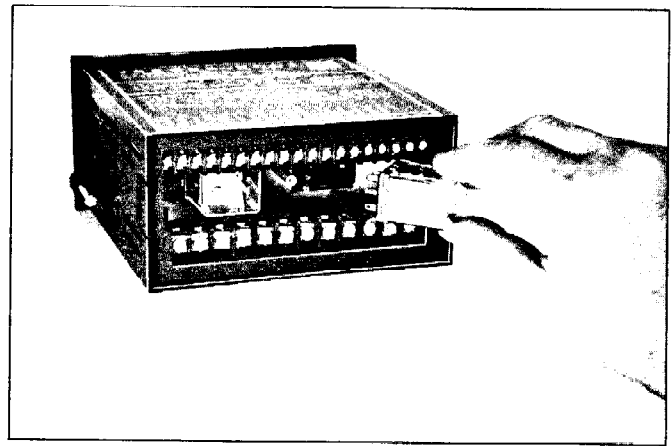

Figure 9-2. Removing the Relay.
3. Grasp the relay to be removed and rock gently while pulling from the socket (see Figure 9-2).